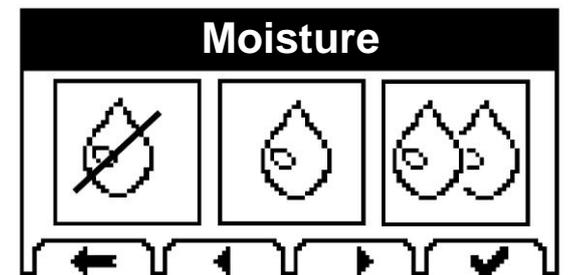

Fig. 5.5
- If the length of the drying period has been selected **by setting the moisture level**, select the desired final moisture level (Fig. 5.5):